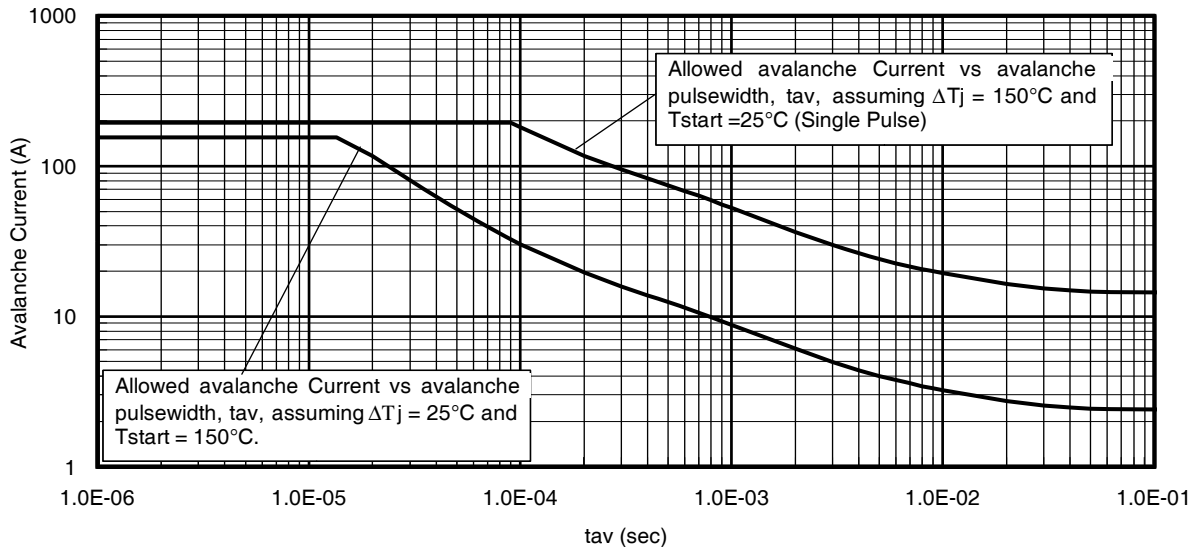

Fig 15. Avalanche Current vs. Pulsewidth
Notes on Repetitive Avalanche Curves, Figures 15, 16:
7. ΔT = Allowable rise in junction temperature, not to exceed T_{jmax} (assumed as 25°C in Figure 15, 16).